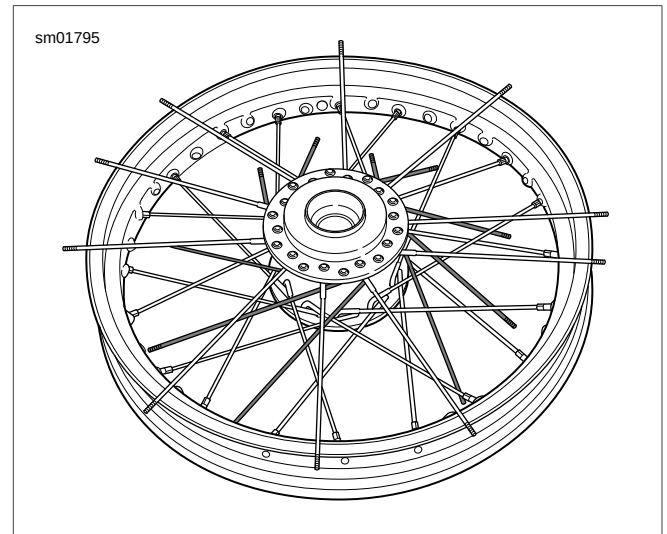

Figure 2-54. Setting Top Flange Inner Spokes
13. See Figure 2-54. Point all the top flange inner spokes (long-head) clockwise one at a time leaving the outer spokes (short-head) resting on the rim.